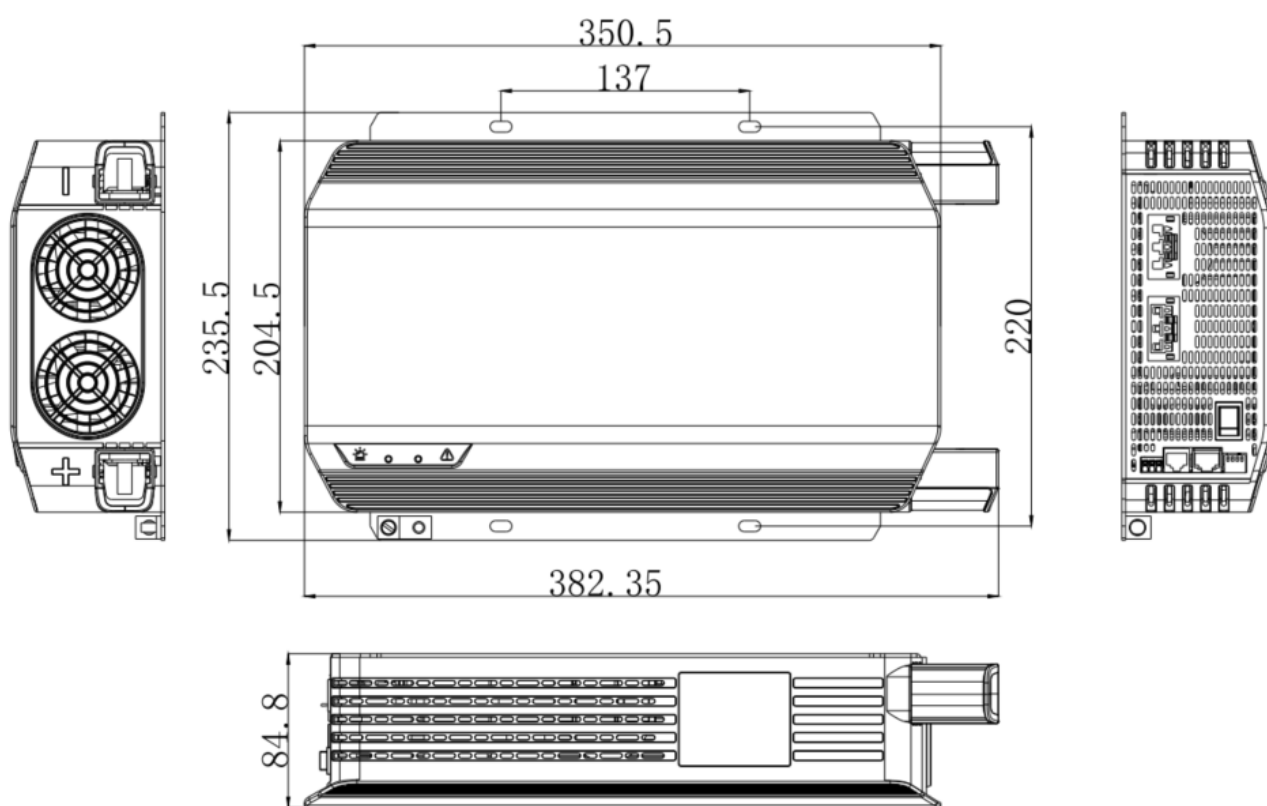

Figure 2-5 Dimension of NH series
- The NH series inverter features **forced-air cooling**. To ensure effective heat dissipation, sufficient wiring space must be reserved, and it is recommended that the installation area be equipped with ventilation holes to allow for air circulation. Refer to **Figure 2-5** for installation